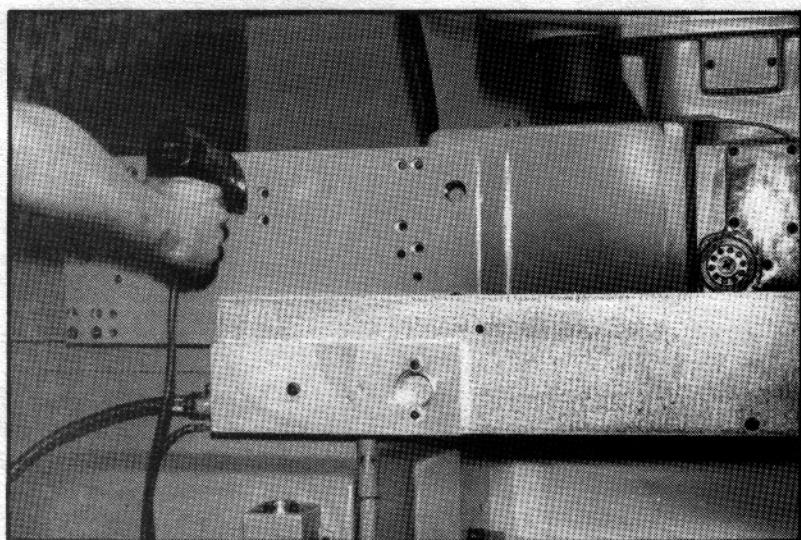

FIG. 2.10 DRILL OPERATION
7. With the mount plate thus positioned, the threaded bushings are used as drill bushings to start drilling the mounting holes in the mill. There are holes through the mount plate which give access to the bushings for this operation (see Figure 2.10). A long 3/8" drill may be necessary. A metric equivalent could be substituted if metric cap screws are to be used.